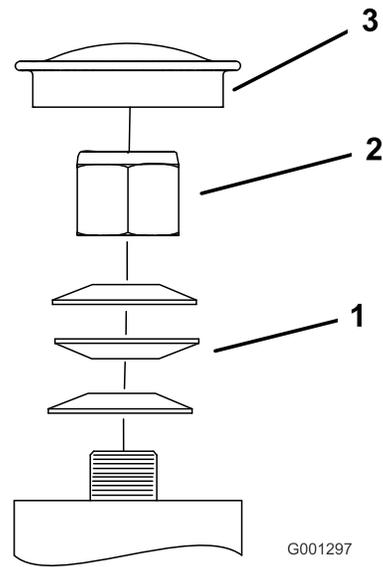

Figure 59
3. Remove the dust cap from the caster and tighten the lock nut (Figure 59).
4. Tighten the locknut until the spring washers are flat, and then back off a 1/4 turn to properly set the preload on the bearings (Figure 59).
Important: Make sure spring washers are installed correctly as shown in Figure 59.
5. Install the dust cap (Figure 59).